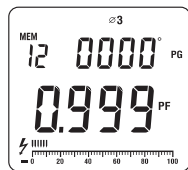

Figure 22
- Press **SELECT** again to choose the third phase Ø3, see figure 22.